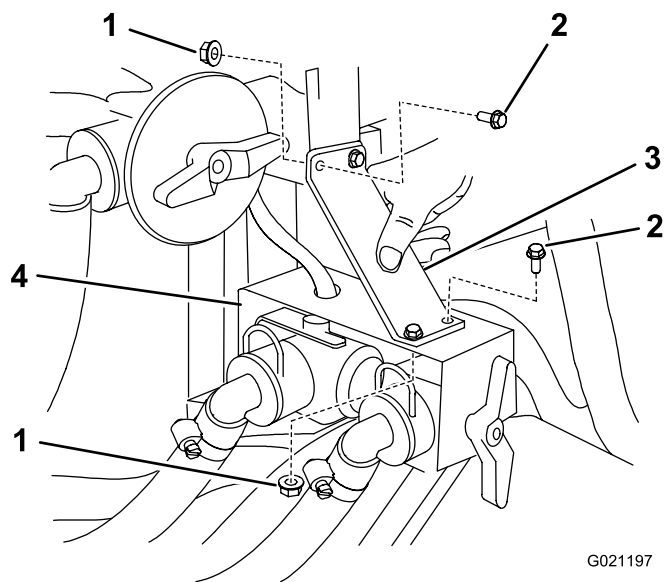

Figure 8
- On a Multi Pro Sprayer (Figure 8), install the support bracket using 4 flange-head bolts (1/4 x 3/4 inch) and 4 flange nuts (1/4 inch).